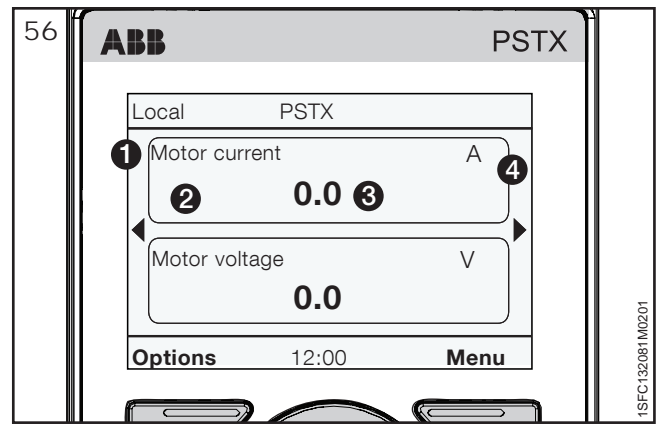

Figure 56: Display slot
**Display signal min as** - Press  "Edit" to choose the scaled minimum value that is to be shown in the Home view. Use the Navigation keys to change value, Press  "Save" to save the value. **See ③ in Figure 56.**
**Display signal max as** - Choose the scaled maximum value that is to be shown in the Home view. Use the Navigation keys to change value, Press  "Save" to save the value. **See ③ in Figure 56.**
**Display unit** - Type in the unit which is to be displayed in the Home view. It is possible to type a unit with up to 10 characters. Use the Navigation keys to change the characters.  "Save" to save the Home view unit name. **See ④ in Figure 56.**